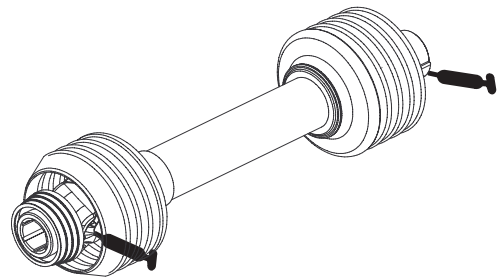

Figure 13
Under normal conditions, grease the (2) drive shaft fittings after every 100 hours of use (Fig. 13). Use a No. 2 Lithium-based grease.